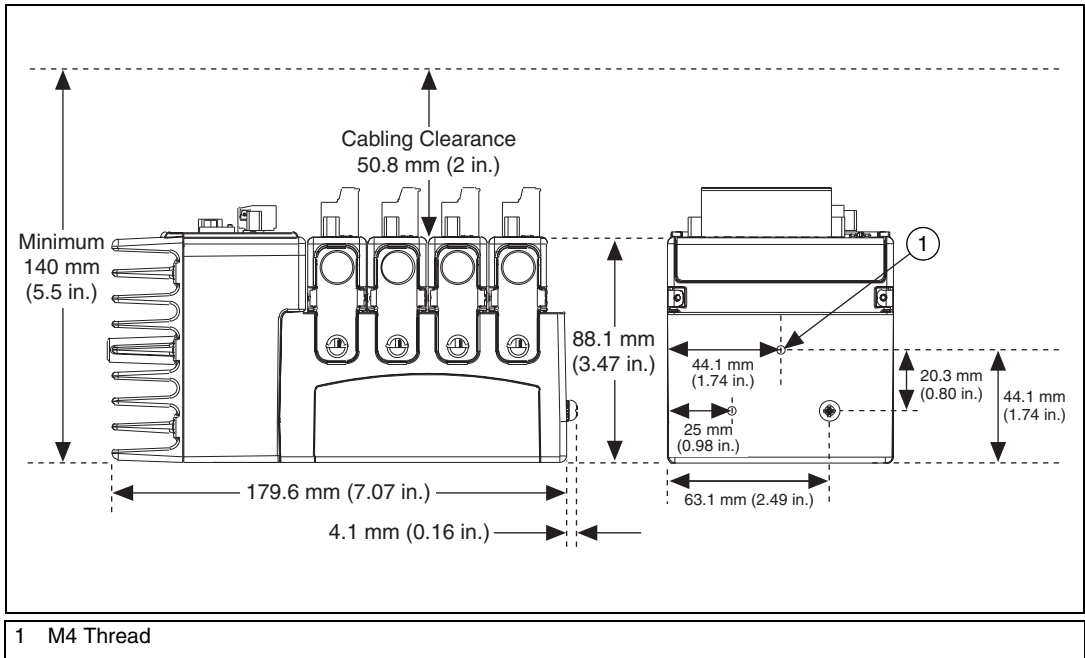

Figure 4. Four-Slot Reconfigurable Embedded Chassis with the Controller and I/O Modules Installed, Bottom and Side View with Dimensions
- Allow 50.8 mm (2 in.) in front of modules for cabling clearance for common connectors, such as the 10-terminal, detachable screw terminal connector, as shown in Figure 4.